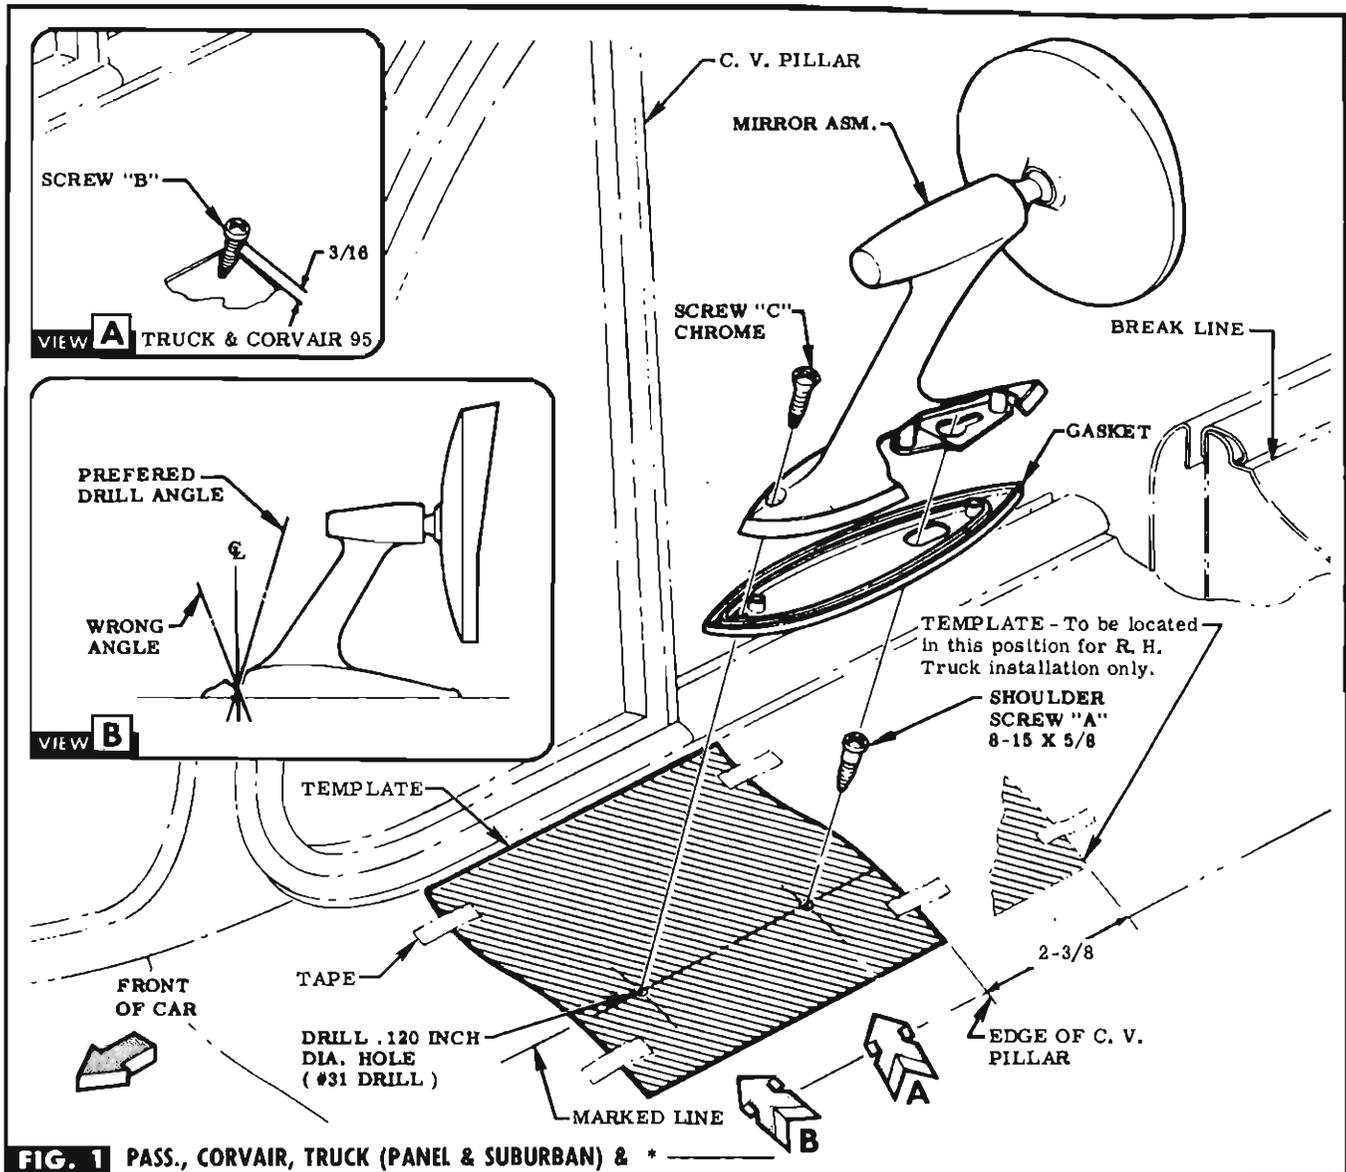

FIG. 1 PASS., CORVAIR, TRUCK (PANEL & SUBURBAN) & *
STEP 1 FOLLOW DIRECTIONS ON TEMPLATE FOR MODEL DESIGNATION & LOCATION. TAPE TEMPLATE IN PLACE. SEE FIG. 1 OR FIG. 2.
STEP 2 LIGHTLY CENTER PUNCH AT REAR HOLE LOCATION, & MARK CENTERLINE WITH CHALK OR GREASE PENCIL ON DOOR SURFACE FORWARD OF TEMPLATE. SEE FIG. 1 OR FIG. 2.